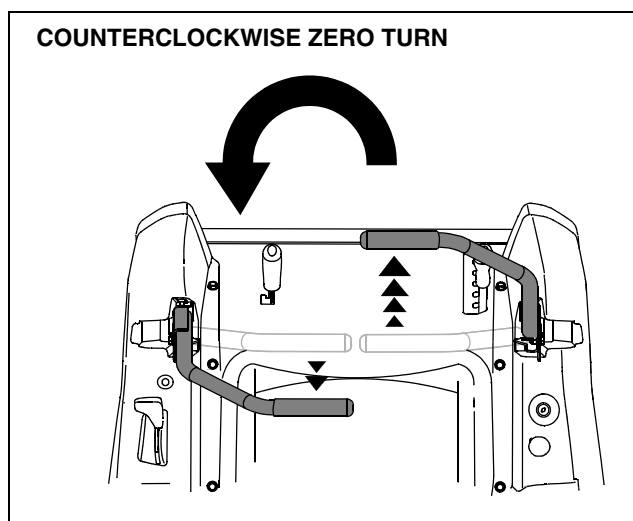

Figure 18
- To turn counterclockwise, slowly move the right control lever forward while simultaneously moving the left control lever rearward. See Figure 18.